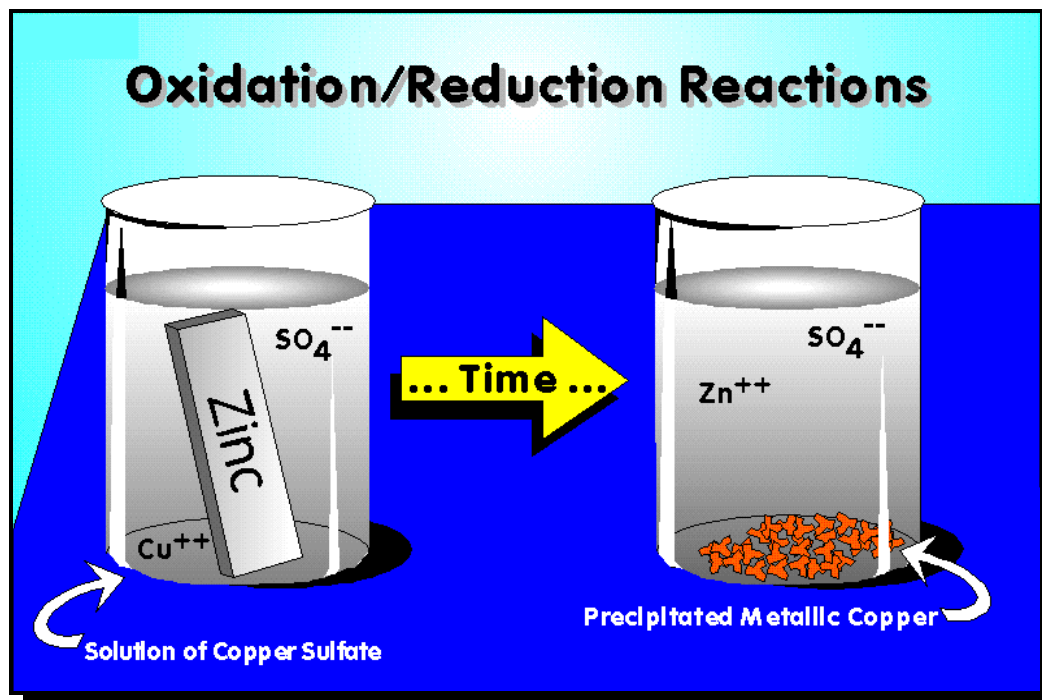
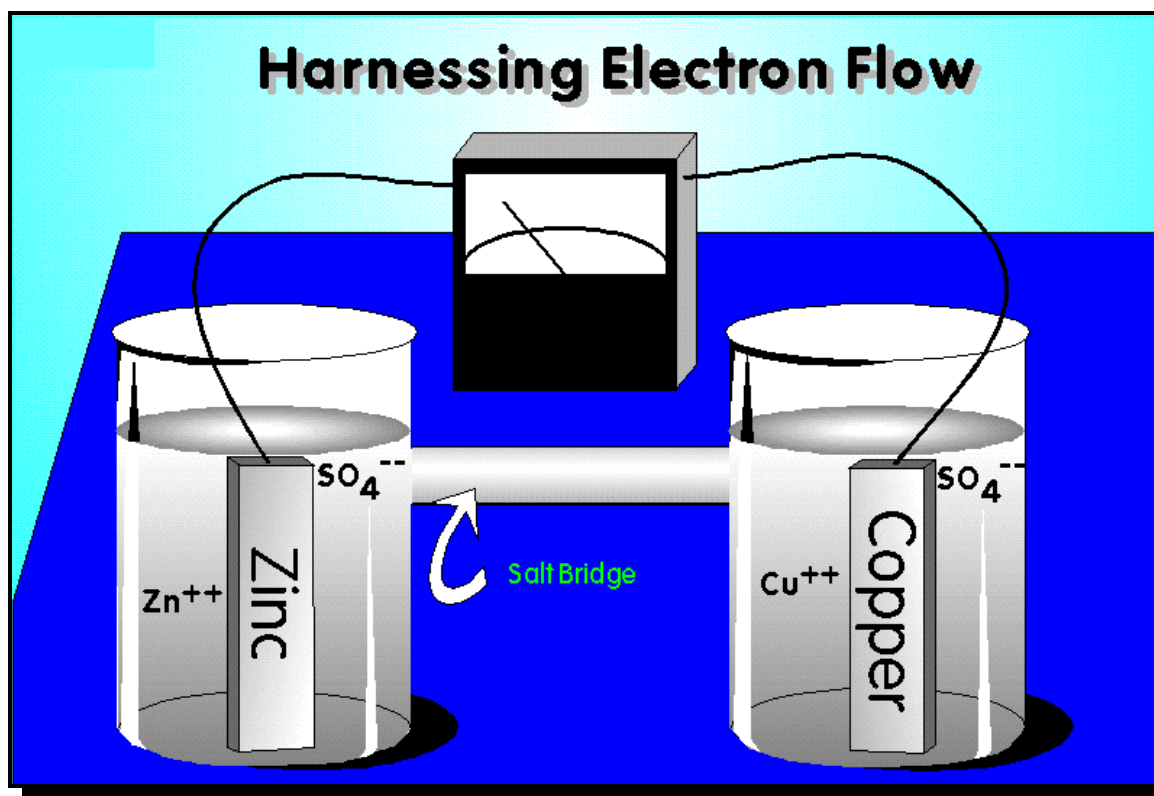

Figure 1
Figure 3
The simplest example of the principles involved can be seen in **Figure 1**. Here a bar of metallic zinc is placed in a solution of copper sulfate. A short time later, we would find that the zinc had dissolved (gone into solution as Zn++), and metallic copper would have precipitated.
We probably all have fond memories of general chemistry and "redox" reactions (oxidation / reduction reactions), but this is crucial to understanding the electrochemical basis of ISE's. The overall redox reaction depicted in **Figure 1**, is represented by Equation 1, in **Figure 2**. (Figure 2 contains various formulas we will use in this paper.)
If we could somehow measure the "strength" of the transfer of electrons depicted in **Figure 1**, we could relate that to an ionic concentration: the stronger the attraction, the higher the concentration. In order to accomplish this, we need to rearrange things a bit.
**Figure 3** illustrates the necessary rearrangement of components. Now, in order for the electrons to leave the zinc and reduce the copper, they are forced to flow through an external circuit; in our case, this has an electrical measuring device attached (meter).
The chemical reactions in **Figure 3** are essentially the same as in **Figure 1**, however, electrons leaving the zinc bar, as zinc ions go into solution, must travel through the wire and meter, over to the copper bar. At the surface of the copper bar, copper ions in solution will pickup electrons, and "plate out" onto the copper bar. So, over time, the zinc bar loses mass and the concentration of  $\text{Zn}^{++}$  increases, while, the copper bar gains mass and the concentration of  $\text{Cu}^{++}$  decreases. The salt bridge is necessary to complete the electrical circuit. It is usually composed of a high salt concentration (such as  $\text{KCl}$ ) and must be in electrical contact with the other solutions, while not allowing any degree of mixing.
The meter in **Figure 3** could be either an ammeter (measuring current flow, or "volume of electrons per unit time") or it could be a voltmeter (measuring the electrical "pressure" of the electrons). Let's see which would be
The apparatus depicted in **Figure 3** is actually an electrochemical cell, not unlike the batteries in your flashlight, or the pH electrode in your laboratory. Electrochemical cells can be classified into one of two types: Galvanic (spontaneous current flow) and Electrolytic (requires an external energy source). The one in **Figure 3** is Galvanic, however it could be turned into an electrolytic cell by replacing the meter with an external power source (such as a battery) and applying enough energy to force the electrons in the opposite direction: reducing the  $\text{Zn}^{++}$  and oxidizing the copper bar. Our electrochemical cell is composed of two "half-cells": a zinc half-cell and a copper half-cell. The half-cell where reduction occurs is called the "cathode" (copper) and the
The measured voltage of the electrochemical cell in **Figure 3** will depend on both the ionic concentrations of the solutions, and the type of reactants. That is, the measured potential would be different if either half-cell were replaced with a cadmium half-cell (cadmium metal in a solution containing Cd ions), or any other type. The measured potential represents the DIFFERENCE between the potentials of each half-cell. Knowing the potential of any two half-cells, the measured potential of the resulting electrochemical cell can be predicted.
It would be helpful, at this point, to look at a typical calculation. Let's go back to our original zinc/copper electrochemical cell (**Figure 3**), where all ions are at unit activity (1.0000); what would be the measured potential? **Figure 5** lists the steps involved.